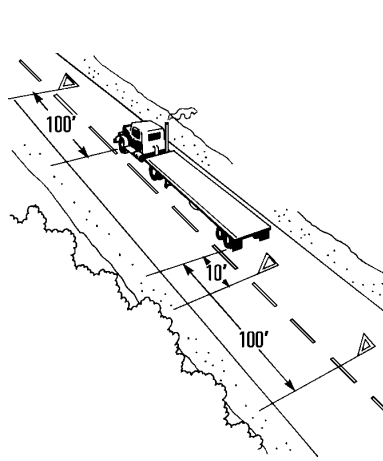

Figure 2-5 Two Lane or Undivided Highway
- On a two-lane road with traffic in both directions or on an undivided highway, place warning devices within ten feet of the front or rear corners to mark the location of the vehicle and 100 feet behind and ahead of the vehicle, on the shoulder or in the lane in which you stopped. (Figure 2-5.)
- On the traffic side of the vehicle, within ten feet of the front or rear corners—to mark the location of the vehicle. (Figure 2-5)